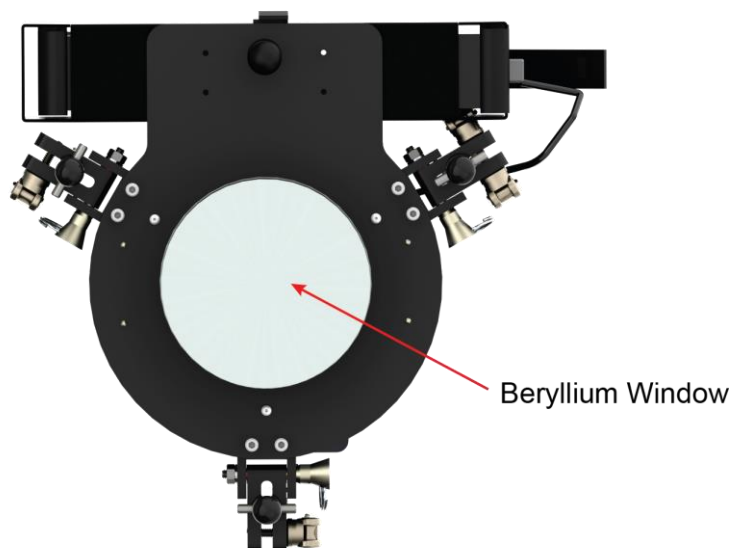

Figure 5. Beryllium window.
4. Carefully remove the cover from the fragile beryllium window (Figure 5), ensuring that it is not scratched or damaged in any way.